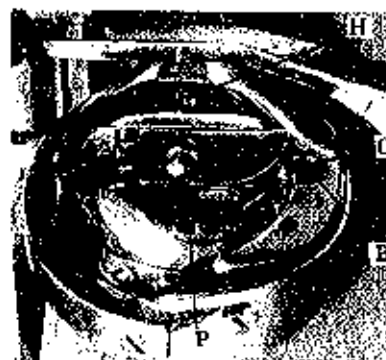

Fig 6
3. LEAD THREAD END THROUGH GUIDE HOLD (H) FIG. 6, LOCATED AT FRONT OF BOBBIN CASE ABOVE HINGED LATCH.